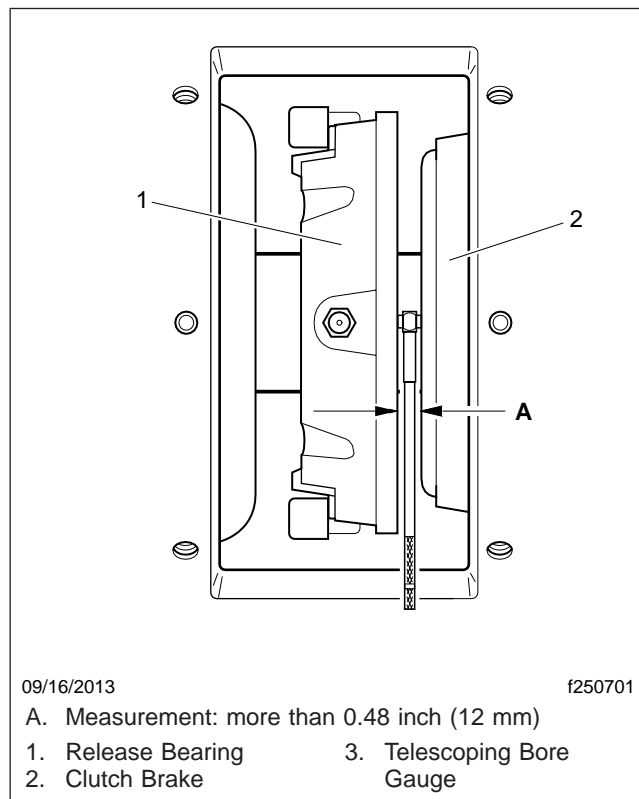

Fig. 6, Clutch Gap
9. Using a telescoping bore gauge, measure the gap between the clutch brake and the release bearing, then measure the gauge with a digital caliper. The distance should be more than 0.48 inch (12 mm). See Fig. 6.